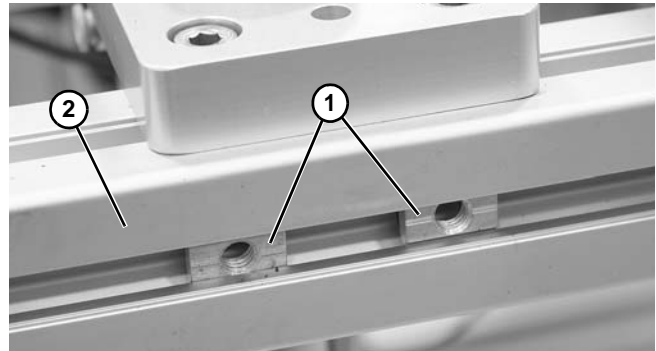

Figure 20
4. Install cam follower nuts (**Figure 20, item 1**) into mounting tube (**Figure 20, item 2**). Repeat for opposite mounting tube.